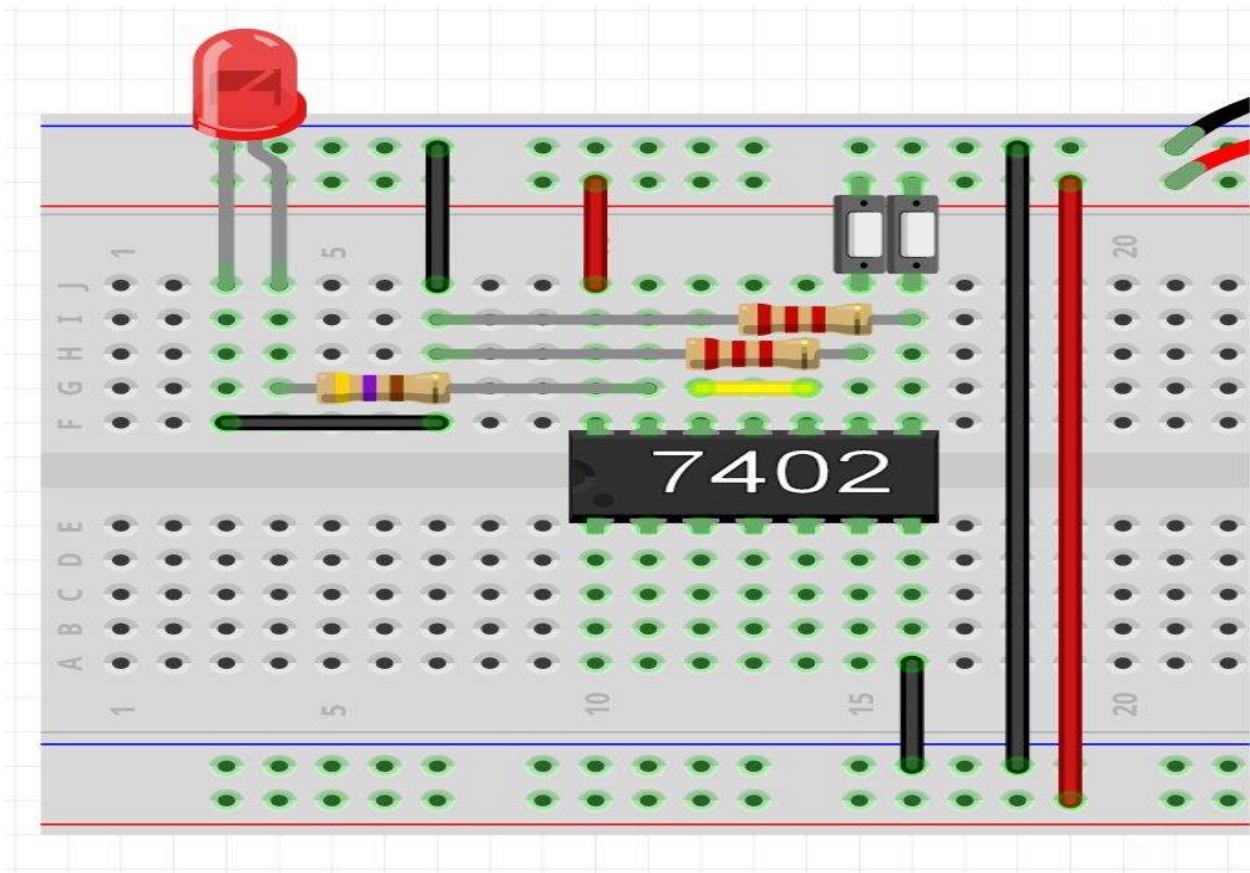

Fig. 1.1 Connection diagram of 7402
- First, place the gate IC on the breadboard as shown in the figure 1.1.